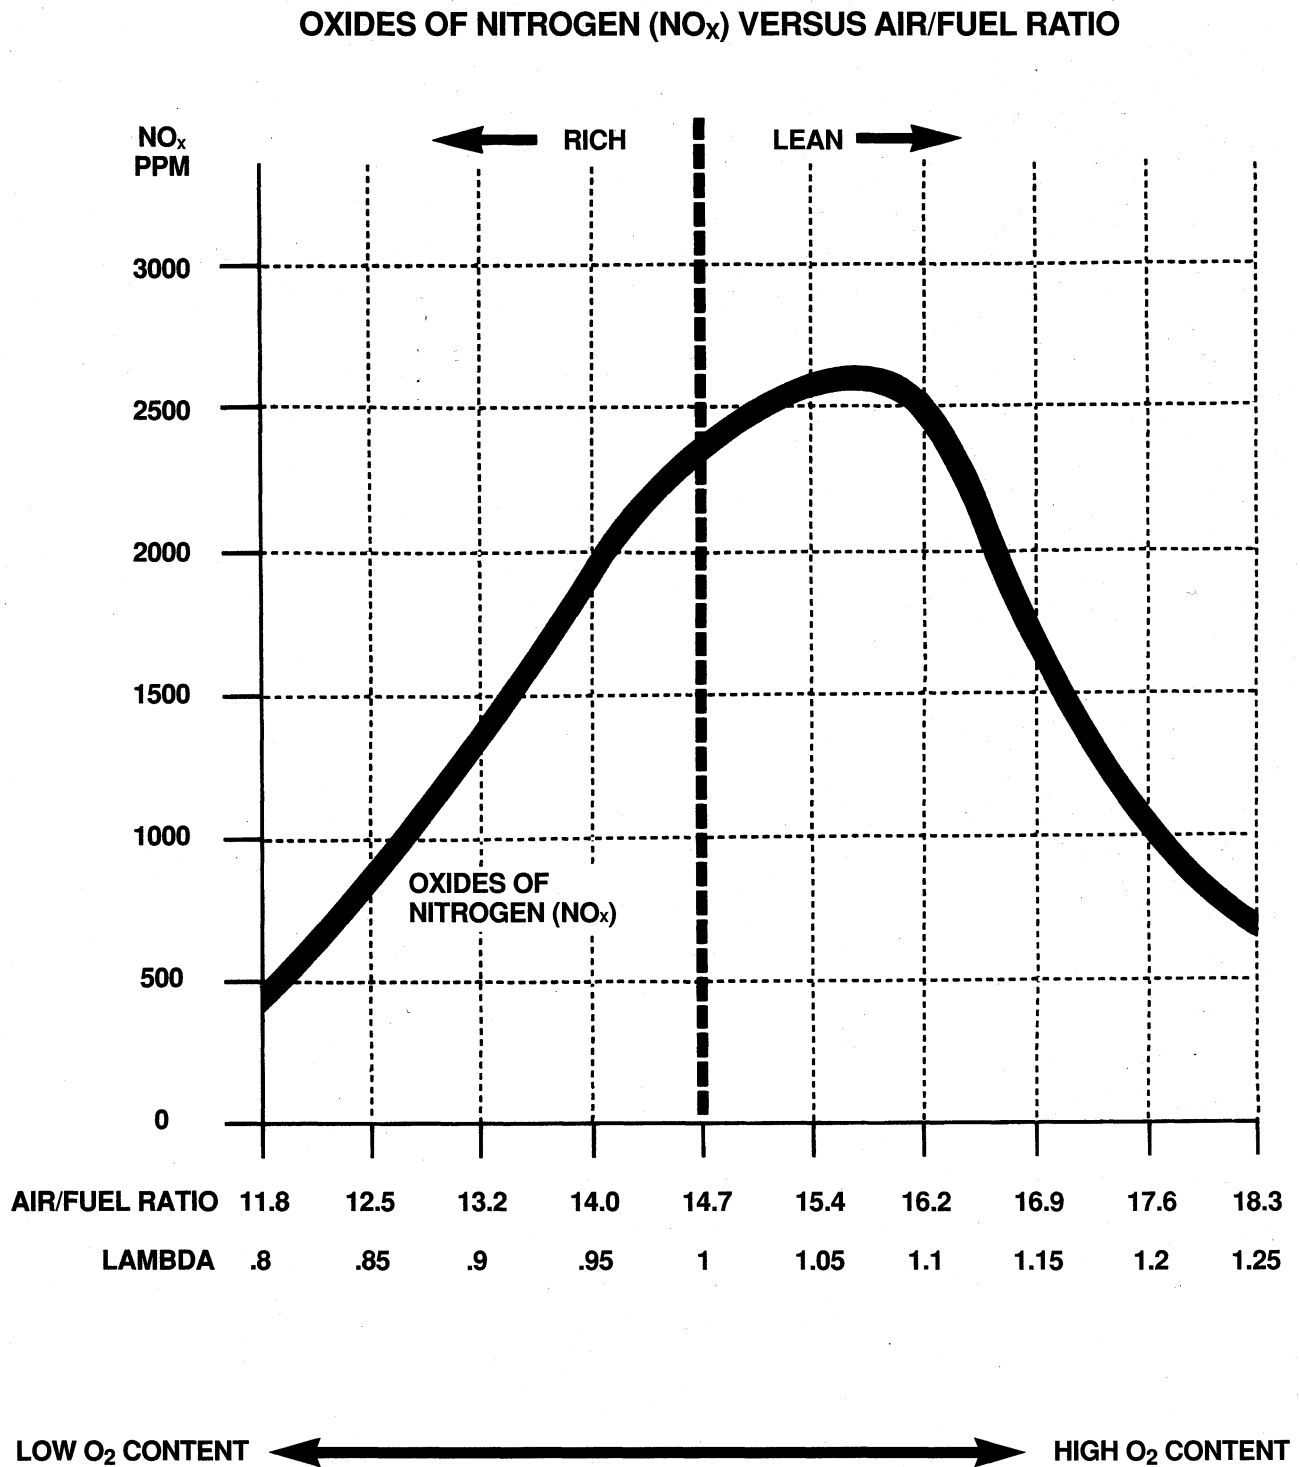

Figure 22 NO_x Emissions versus Air/Fuel Ratio
- Excessively lean air/fuel mixtures (fig. 22)
Figure 22 shows that oxides of nitrogen: